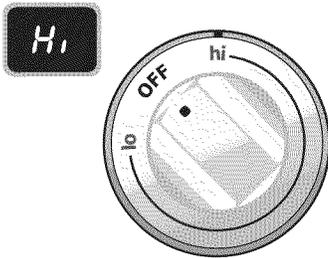

Fig. 2
2. Push in and turn the surface control knob in either direction to the desired setting using the ESEC digital display window to verify (Fig.2). Turn the knob to adjust the setting as needed.